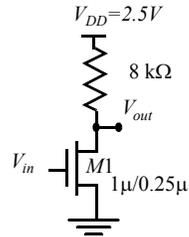

Figure 0.7 MOS circuit.
11. [M, SPICE, 3.3.2] Problem 11 uses the MOS circuit of Figure 0.7.
17. [M, None, 3.3.3] Compute the gate and diffusion capacitances for transistor *M1* of Figure 0.7. Assume that drain and source areas are rectangular, and are  $1 \mu\text{m}$  wide and  $0.5 \mu\text{m}$  long. Use the parameters of Example 3.5 to determine the capacitance values. Assume  $m_j = 0.5$  and  $m_{jsw} = 0.44$ . Also compute the total charge stored at node *In*, for the following initial conditions:
- For the circuit of Figure 0.7, calculate nominal, minimum, and maximum currents in the NMOS device with  $V_{in} = 0 \text{ V}$ ,  $2.5 \text{ V}$  and  $5 \text{ V}$ . Assume  $3\sigma$  variations in  $V_{T0}$  of  $25 \text{ mV}$ , in  $k'$  of  $15\%$ , and in lithographic etching of  $0.15 \mu\text{m}$ .